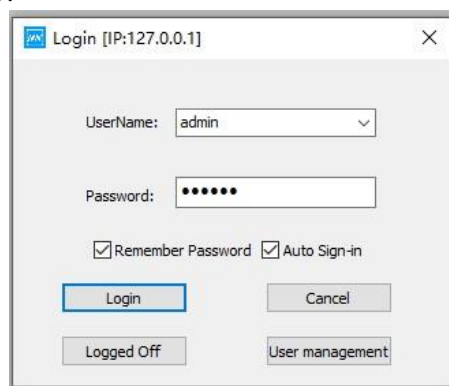

Figure 4-51 User login
Users must log in to the client software to perform related operations. The operations are as follows: Click "Authority management" button  on the menu bar, Enter the "user name" and "password" (the default user name is "admin" and the password is "xinwei"). You can click **Modify User** to change the current password, as shown in Figure 4-51. You can set a record password and automatic login to facilitate your next login.
2. Add a new user: Select "Add User", select an existing user group name from the "User Group" drop-down list, fill in the user name, email address, and password, and click "Submit" to create a new user, as shown in the following figure: (Figure 4-51)